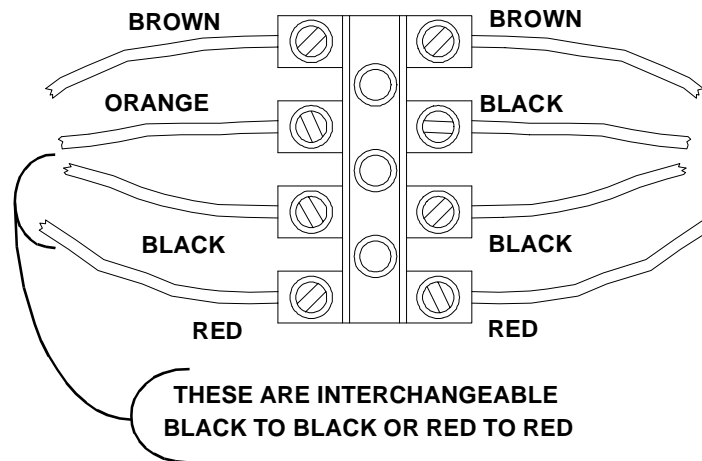

Figure 7 Disconnecting the 4 Wires at the Terminal Block
2. To facilitate the reassembly process, mark or prepare a drawing of the four (4) wires running from the left side of the terminal block to the control box. Figure 7 on page 32 is a typical layout, although variations may occur.
3. Using a small blade screwdriver, disconnect these four (4) wires.
4. Pull the cable containing these four (4) wires through the two (2) tie wraps, or snip and remove the two (2) tie wraps with side cutters.